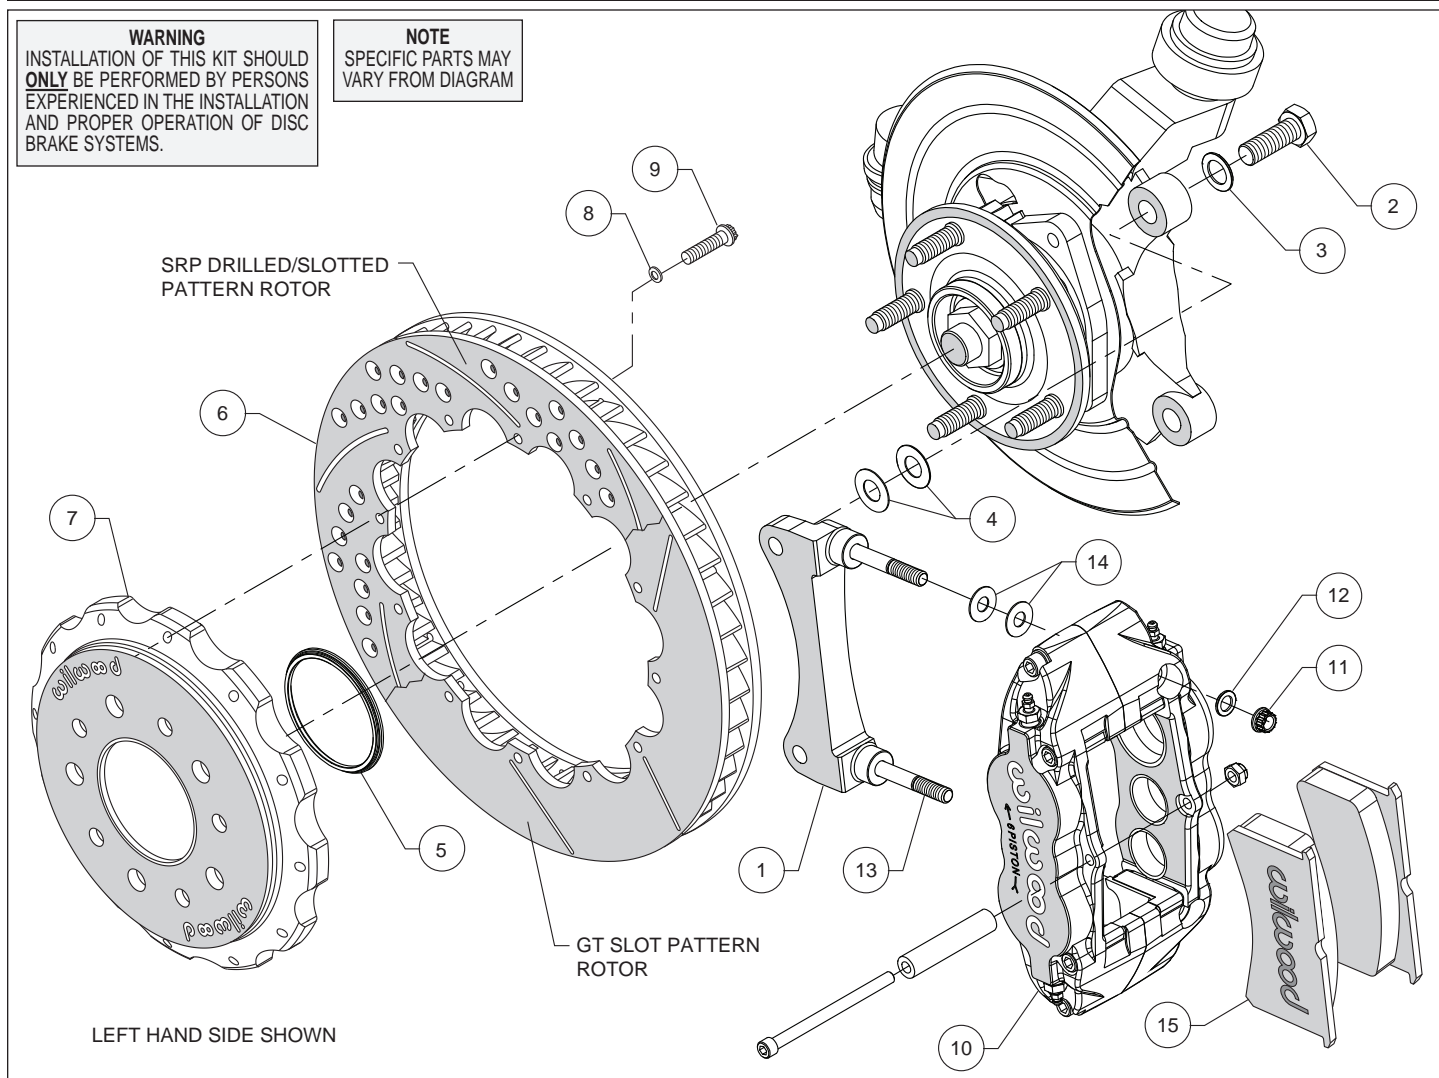
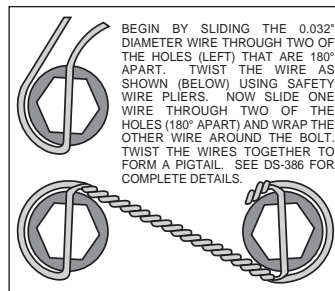

Figure 1. Typical Installation Configuration
Figure 3. Safety Wire Diagram
Assembly Instructions (numbers in parenthesis refer to the parts list and Figure 1 on the preceding pages):
- The caliper mount bracket (1) should initially be installed with clean, dry threads on the mounting bolts. Orient the bracket as shown in Figure 1 and Photo 1 and install using mount bolts (2) and washers (3). Initially place two .029" thick shims (4) on each bolt between the bracket and upright, Figure 1. Temporarily tighten the mounting bolts. **NOTE:** *The bracket must fit squarely against the mount bosses on the upright.* Inspect for interference from casting irregularities, machining ridges, burrs, etc. Later, after the caliper alignment has been checked, the mount bolts will be secured using red *Loctite*® 271.
- Orient the rotor (6) and the hat (7) as shown in Figure 1 and Photo 2. Attach rotor to hat using bolts (9) and washers (8). Using an alternating sequence, apply red *Loctite*® 271 to the threads, and torque to 155 in-lbs. For an added measure of security, the bolts may be safety wired using standard 0.032 inch diameter stainless steel safety wire as shown in Figure 3. Please refer to Wilwood's data sheet DS-386 (available at www.wilwood.com/Pdf/DataSheets/ds386.pdf) for complete safety wire installation instructions.
- **NOTE:** *This kit contains distinct right and left hand calipers that must be mounted in a specific direction, as described below.* Lubricate the caliper mounting studs (13) with lightweight oil. Initially place two .035" thick shims (14) on each stud as shown in Figure 1 and Photo 7. Mount the caliper (10) onto the bracket (1) using lock nuts (11) and washers (12), Figure 1. Ensure that the caliper is mounted so the largest pistons are at the rotor exit end of the caliper, in relation to the direction of rotor rotation. Temporarily tighten the lock nuts and view the rotor through the top opening of the caliper. The rotor should be centered in the caliper, Photo 8. If not, adjust by adding or subtracting shims (4) between the bracket and the upright. Always use the same amount of shims on each of the two mounting bolts. Once the caliper alignment is correct, remove the bracket mounting bolts one at a time, apply red *Loctite*® 271 to the threads, and torque to 75 ft-lb.